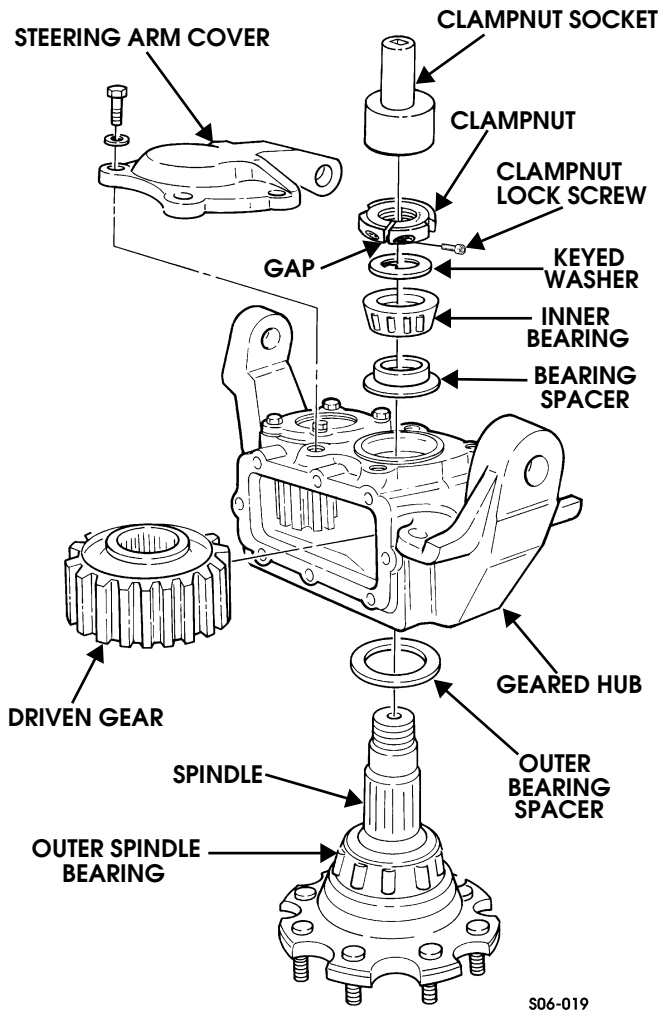

Figure 9-33: Geared Hub Driven Gear Installation
8. Install driven gear and bearing spacer in geared hub (Figure 9-33).